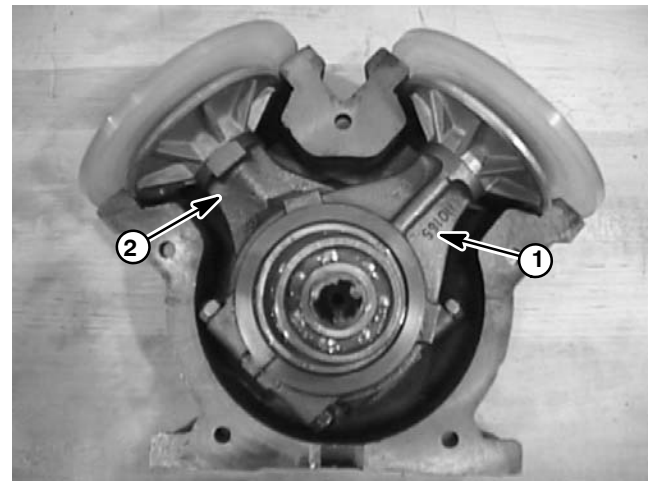

Figure 9
E. Slide crankshaft assembly into pump casing. The rear connecting rod should be positioned to the left side and the connecting rod closest to you to the right side (Fig. 9).